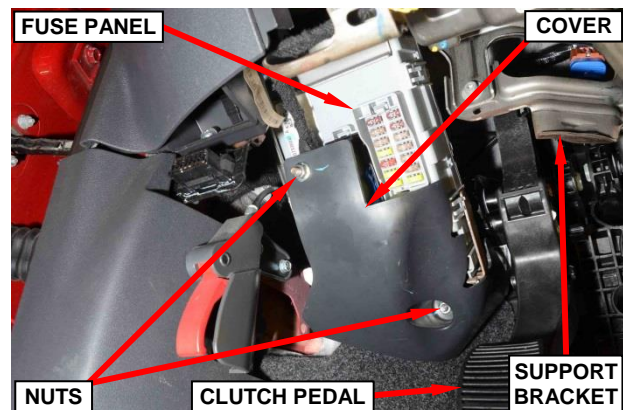

Figure 12 – Fuse Panel Cover
24. Remove and save the two nuts from the fuse panel cover (Figure 12).
25. Remove and save the fuse panel cover (Figure 12).
39. Install the fuse box cover, then install the two nuts and tighten the nuts securely (Figure 12).